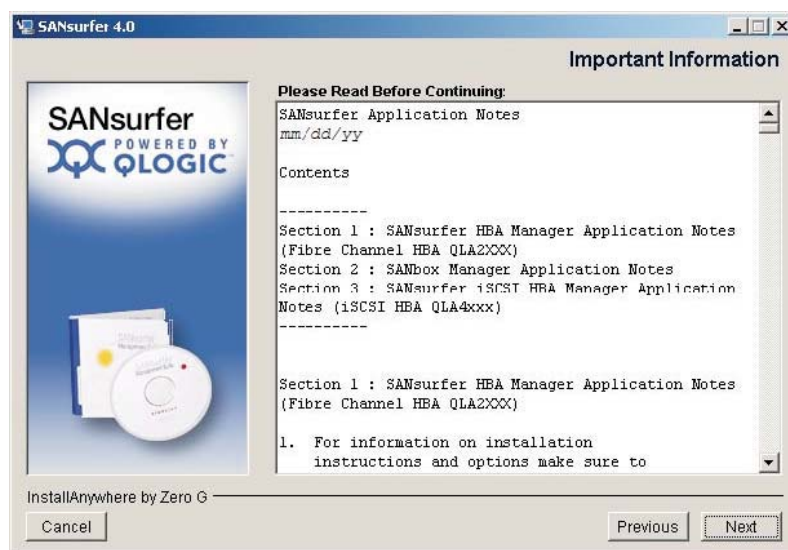

Figure 2. Important Information window
3. The Important Information window opens as shown in Figure 2. Read the information in the Important Information window, and then click **Next**.